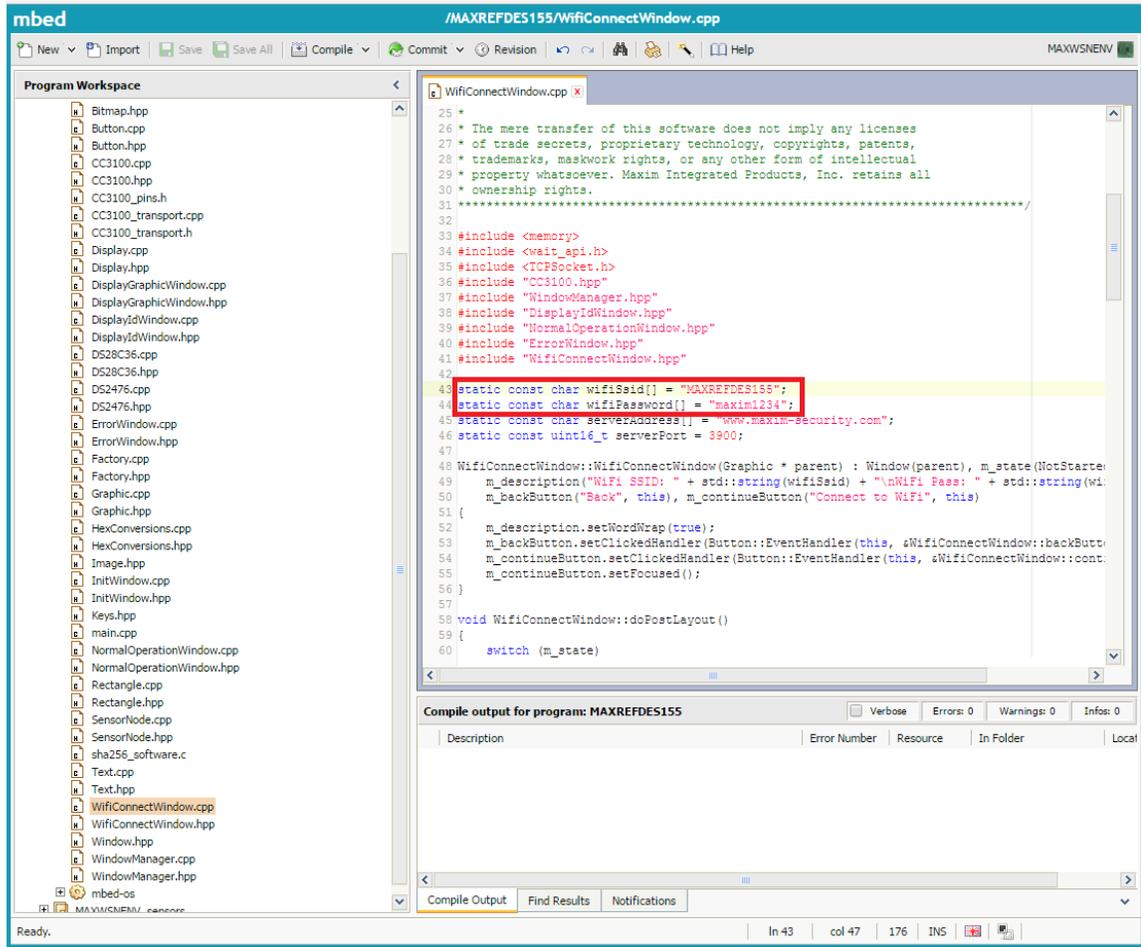

Figure 5. Editing the Wi-Fi SSID and password fields for personal hotspot.
4. Edit the Wi-Fi SSID and password fields in `WifiConnectWindow.cpp` with the values for a personal hotspot (Figure 5).
7. Provide the internet hotspot setup with the network name and network password with the values created for **Figure 5**. Make sure to place the hotspot in reasonable proximity to the mbed.